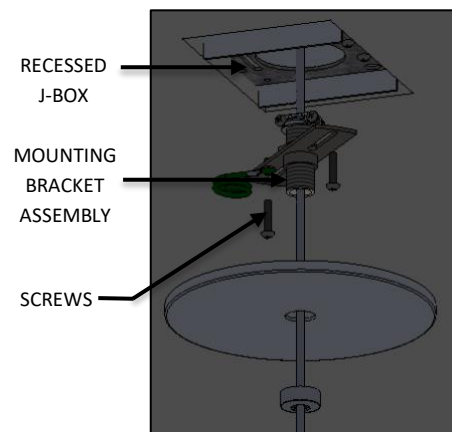

FIG. 32 – FINIAL ASSEMBLY
28. Raise MOUNTING BRACKET ASSEMBLY up to RECESSED JUNCTION BOX, and secure with the MOUNTING BRACKET SCREWS as shown in FIG.32.